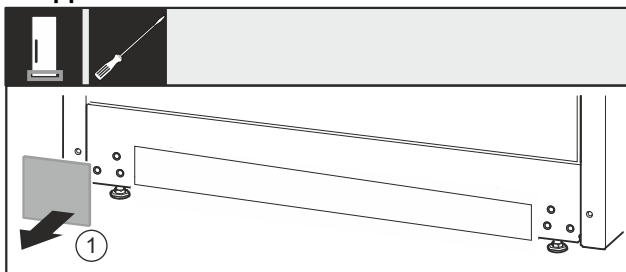

Fig. 32
- Remove the cover Fig. 32 (1).